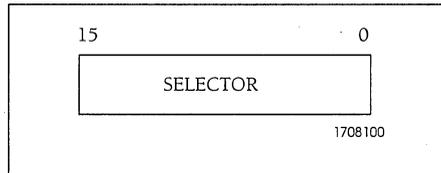

Figure 2-10. Task Register
The **Task Register (TR)** holds a 16-bit selector for the current **Task State Segment (TSS)** table as shown in Figure 2-10. The TR is loaded and stored via the LTR and STR instructions, respectively. The TR can only be accessed during protected mode and can only be loaded when the privilege level is 0 (most privileged). When the TR is loaded, the TR selector field indexes a TSS descriptor that must reside in the global descriptor